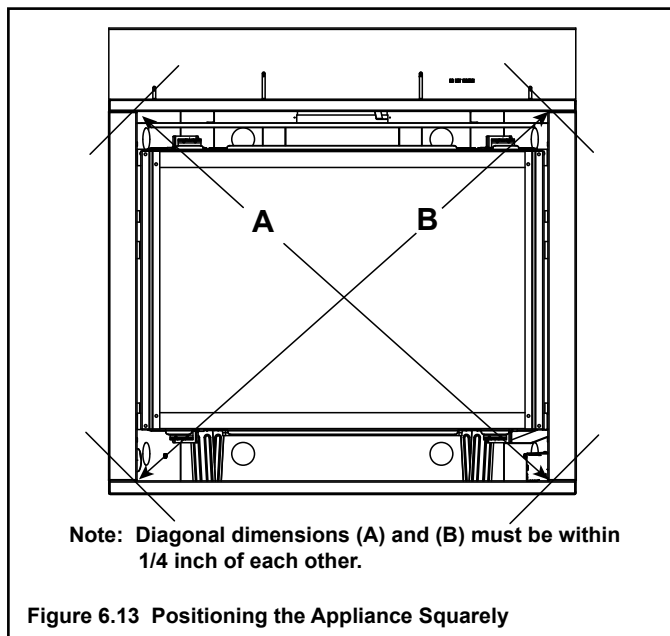

Figure 6.13 Positioning the Appliance Squarely
The diagram shows how to properly square and position, and secure the appliance. See Figures 6.13 and 6.14. Nailing tabs are provided to secure the appliance to the framing members.
- “Square” the unit by securing diagonal dimensions to within 1/4 inch of each other. See Figure 6.13.